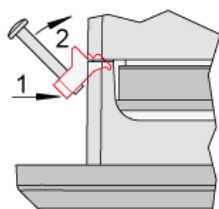

Fig. 11: Attach clamp inserts
5. ➤ Re-install the clamp inserts by tilting the insert to a 45° angle. (Fig. 11/1) Insert the nose of the insert into the slot on the side of the housing. (Fig. 11/2) Raise the clamp insert so that it is parallel to the control panel.